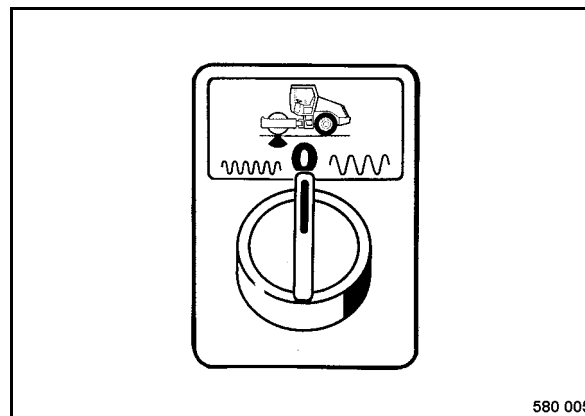

Fig. 42
- Preselect amplitude/frequency with the rotary switch (Fig. 42).